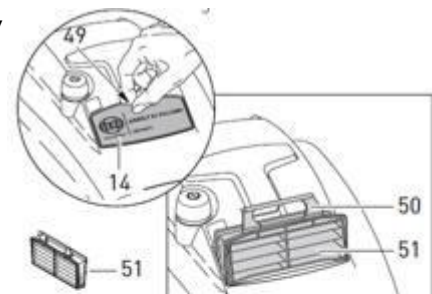

Figure 17
The exhaust filter (51) needs to be changed when it becomes extremely dirty or clogged with dust, or after approximately 10 to 20 filter bags have been used. To change the exhaust filter, set the canister flat on the floor as shown in figure 17. Remove the printed cover on top of the machine (14) by lifting the catch (49) in the upholstery nozzle recess (see inset, figure 17). Pull out the filter using the handle (50) and fit the new filter into the same position. The filter handle should point toward the upholstery nozzle when it is folded down. Fit the tabs on the bottom of the cover (14) into the grooves and snap the cover down firmly.